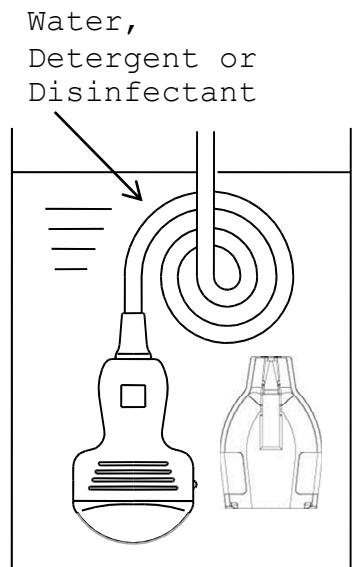

Fig. 13 Immersion of the probe
- 2) Immerse the immersible part of the probe without connector into the diluted detergent solution (see Fig. 13). Wipe the immersible part of the probe under the surface of the detergent solution with a soft cloth to remove all visible soil. Be sure that all grooves of the probe are implemented during the cleaning process.
- 5) Rinse the probe with running tap water for 1 minute. (alternatively: immerse the immersible part of the probe in a tray filled with deionized water/tap water (see Fig. 13) for 5 min.)
- 4) Rinse the Attachment with running tap water for 1 minute. (alternatively: immerse it in a tray filled with deionized water/tap water (see Fig. 13) for 5 min.)
- 3) Immerse the immersible part of the probe into the disinfectant (see Fig. 13). Set a clock to insure the recommended contact time which is 5 minutes.
- 2) Immerse the Attachment into the disinfectant (see Fig. 13). Set a clock to insure the recommended contact time which is 5 minutes.